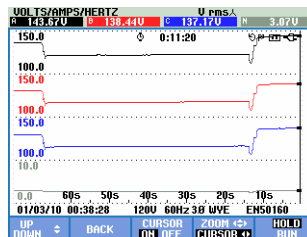

Figure 23-5. Trend display, cursor on
- Operate F2 and F3 to switch the Cursor on (only in Hold mode). Use the left/right arrow keys to move the Cursor horizontally along the trends. The value of the trends at the Cursor is displayed in the screen header as shown in Figure 23.5. Positioning the Cursor across the left or right screen end moves the trend to the left or right.